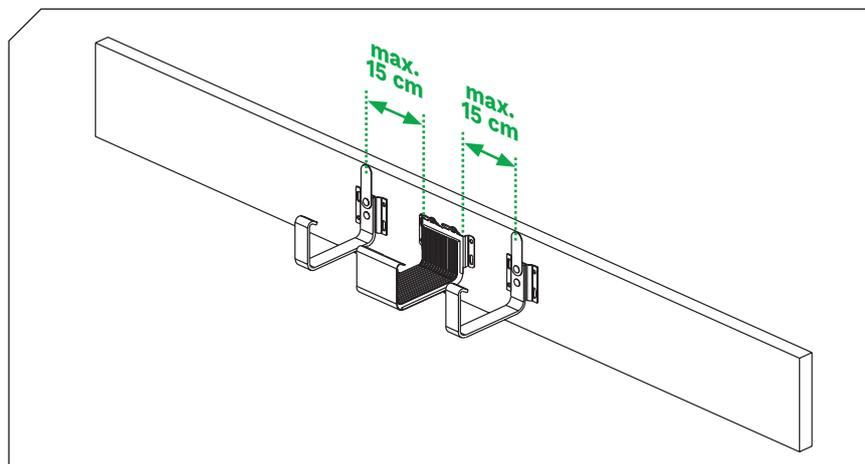

Figure 4
- 2.3 At the expansion joint, the corner and the end cap, the adjacent brackets should be installed no farther off than **15 cm** from the joint created. (Figure 4)